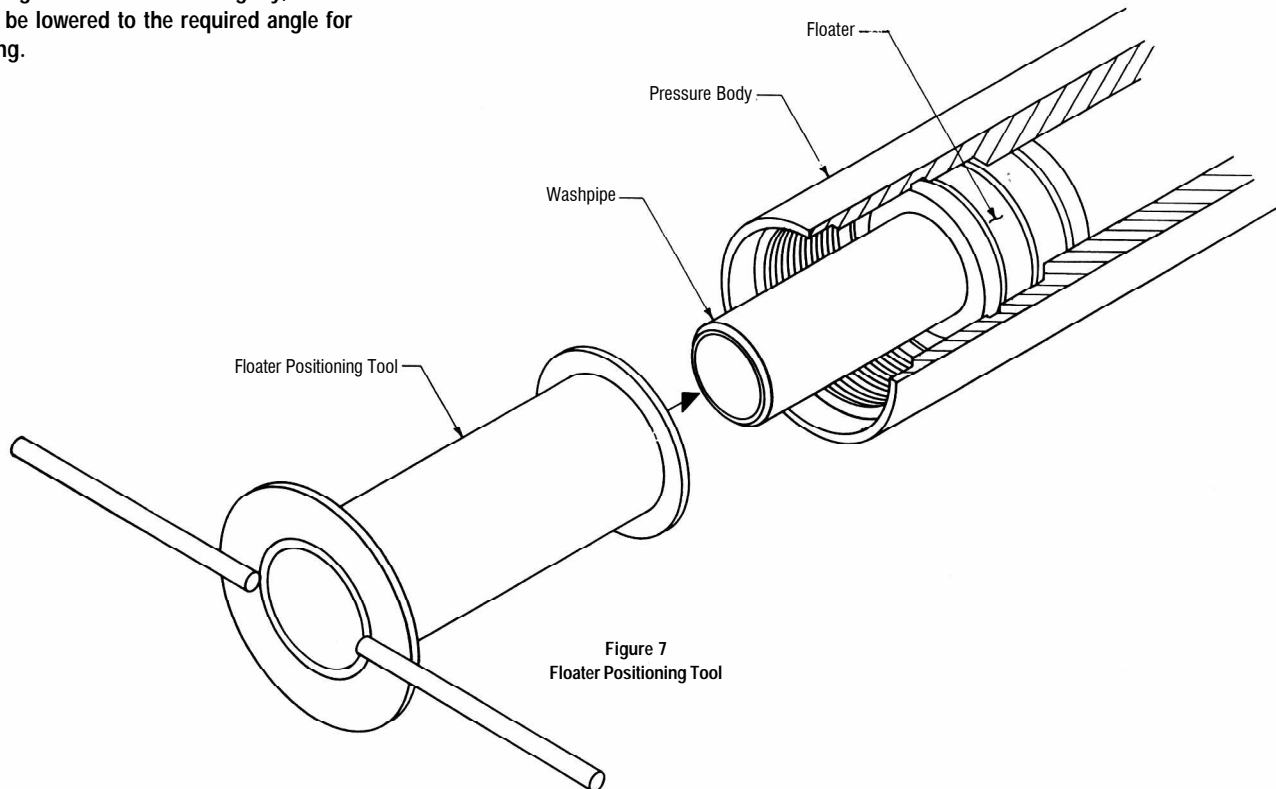

Figure 7
22. Coat the I.D and O. D of the Floater (44) with Bowen Jar Lube. Slide the Floater (44) over the Washpipe (38). Push the Floater (44) with the Floater Positioning Tool (52) until the positioning tool comes in contact with the end of the Pressure Body (see Figure 7, page 13).